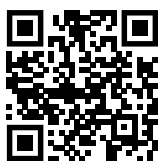

Fig. 184
- ▶ Otevřete Liebherr SmartMonitoring Dashboard. (viz Fig. 184)